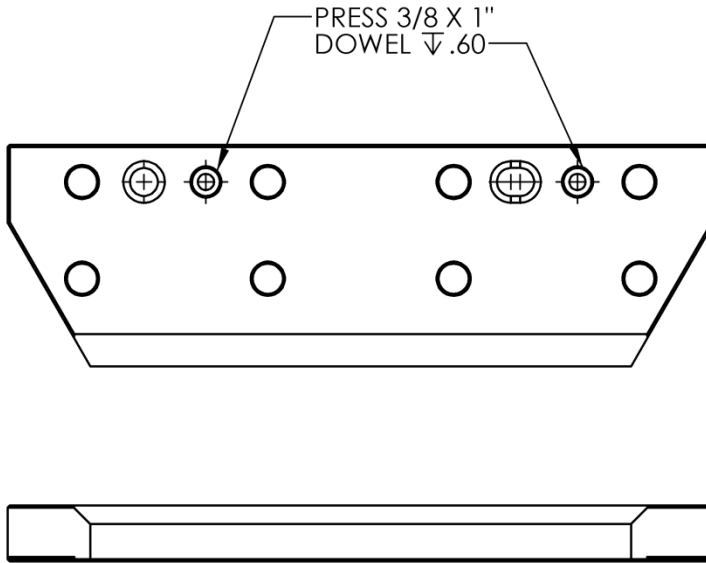

Figure 20
1. Apply dowel pins as shown Figure 20.